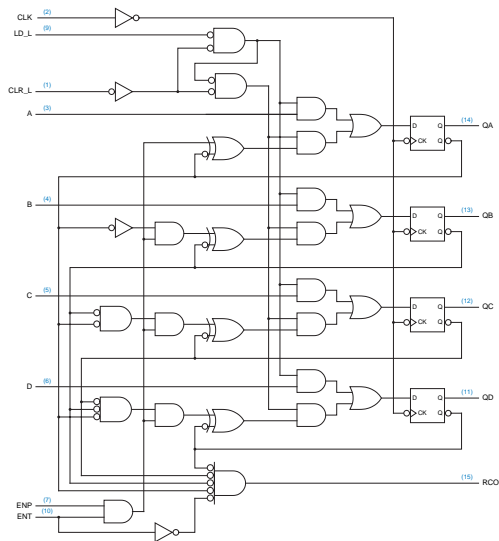

Figure 24: Logic diagram for the 74x163 synchronous 4-bit binary counter, including pin numbers for a standard 16-pin dual in-line package.
- In Fig. 24, both ENP and ENT enable inputs must be asserted for counter to count. However, ENT goes to ripple carry output as well